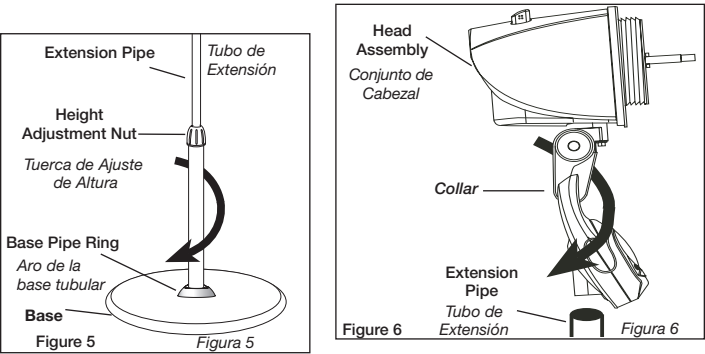

Figure 5: Base Pipe Ring assembly. Figure 6: Head Assembly installation. Figure 7: Rear Grill installation. Figure 8: Blade installation.
5. Place base pipe ring over hole in base. With a twisting motion, insert the end of the large diameter pipe into hole in Base. (Figure 5) Turning pipe while pushing will assure pipe is fully seated in Base. For Height Adjustment: